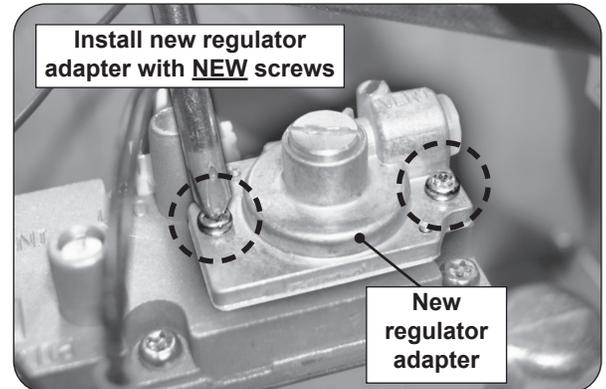

Fig. 5-2 Fasten new regulator adapter
10. Use the provided screws and a small Phillips screwdriver to install the new regulator adapter onto the valve body (see Fig. 5-2).